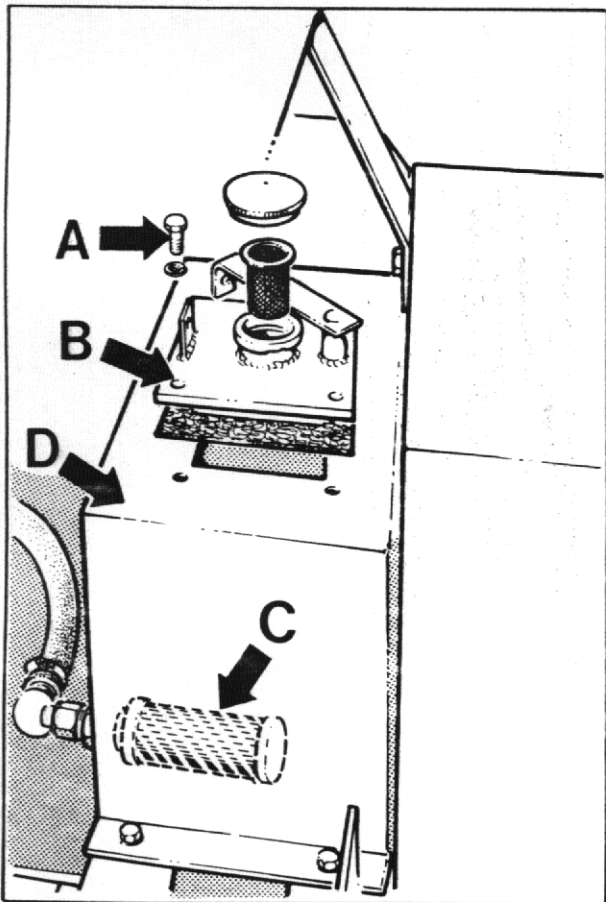

FIG. 9
2. Check that hydraulic filter is not blocked. (See fig. 9)
- a) Remove the four setscrews (A) that secure the filler cap assembly (B) and remove assembly.
- b) Unscrew suction filter (C) from inside tank (D) and wash in white spirit. Dry with moisture-free compressed air.